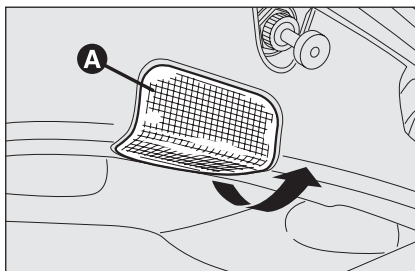

fig. 44
- ☐ remove the light unit **A-fig. 44** working in the point shown by the arrow;